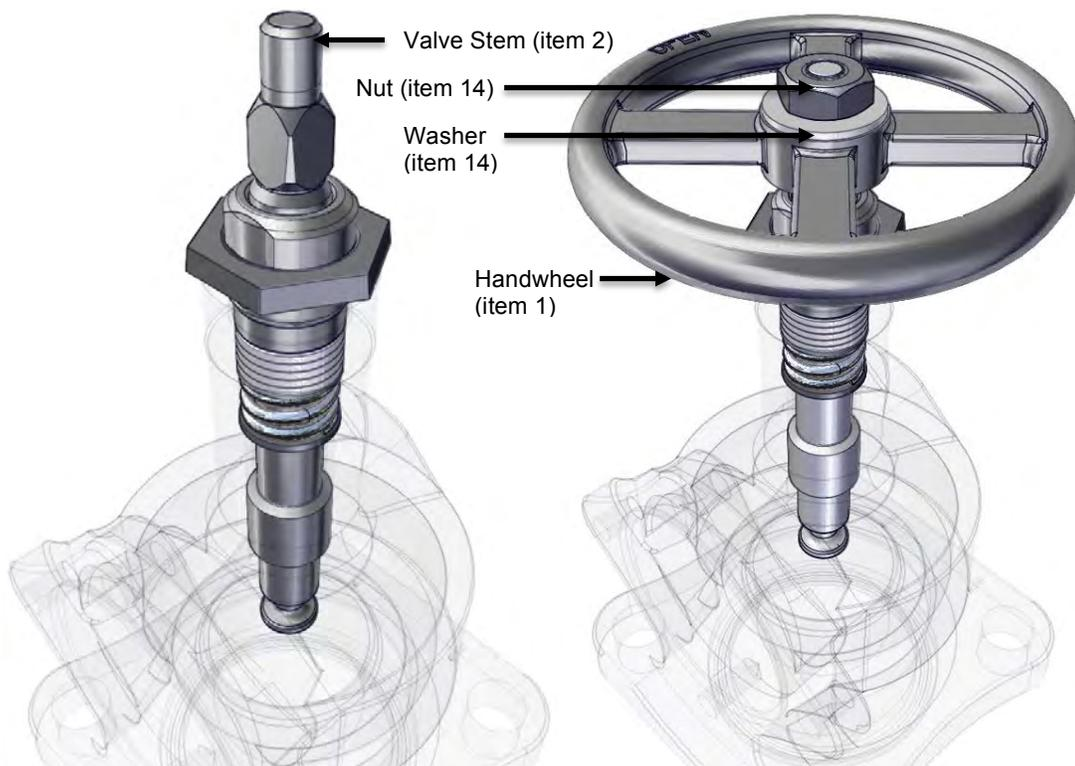

Figure 7-2 Reassembly Steps 7.2.8 through 7.2.10
- 7.2.8 From the bottom side of the body, insert the handwheel end of the stem (item 2). Screw the stem up until the handwheel flats clear the top of the packing screw; see Figure 7-2.
- 7.2.9 Put on the handwheel (item 1), and then the handwheel lock washer (item 14). By hand, screw the handwheel nut (item 14) onto the stem as far as it will go; see Figure 7-2.
- 7.2.10 Turn the handwheel counter clockwise to move the stem up into the neck of the body. It should move easily. After several turns, stop when the stem thread comes into contact with the lower packing washer (item 9); see Figure 7-2.